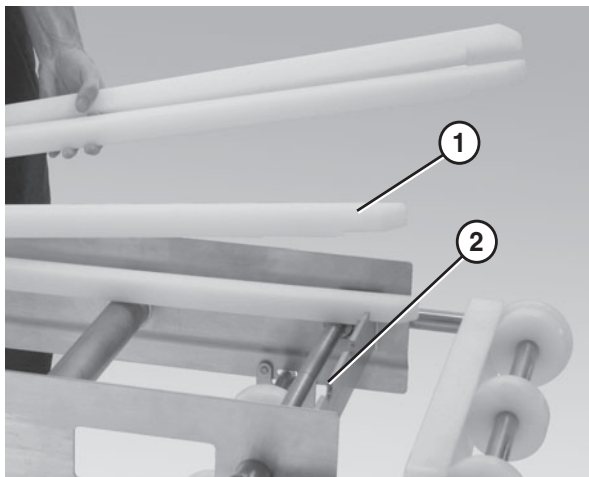

Figure 26
1. Position the wear strips (**Figure 26, item 1**) on the frame.
2. Make sure the wear strips are situated securely in the frame slots (**Figure 26, item 2**).